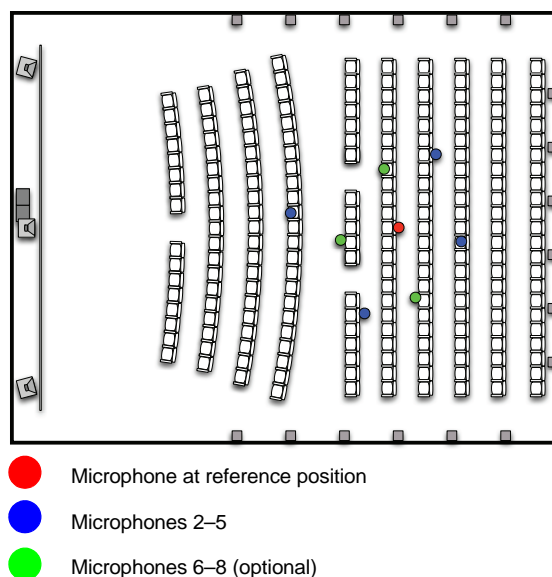

Figure 3-1 Auditorium Microphone Setup
2. Place microphones 2–8 at different positions within the room, so they cover the middle to rear portion of the seating area. (Use the following guidelines, and refer to Figure 3-1.) If possible, avoid the following:
Figure 3-1 shows a typical auditorium microphone setup.